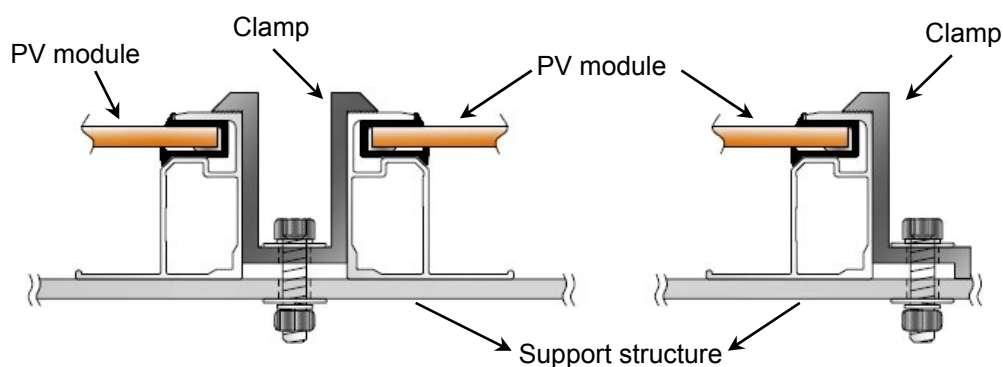

Fig.2 Mounting method - clamp
- The PV module can be mounted by using clamps and fixing plates (Fig. 2, 3).